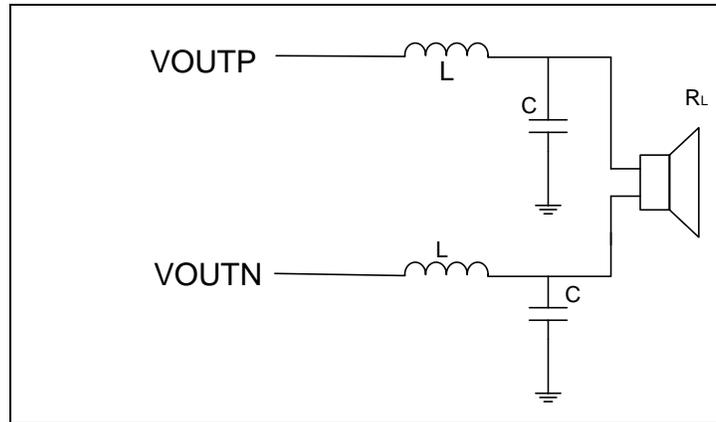

Figure 12 NAU83U15 Speaker Connections with LC Filters
**LC Filters** are used to suppress low-frequency emissions. The diagram in **Figure 12** shows the NAU83U15 outputs connected to the speaker with an LC Filter circuit.  $R_L$  is the resistance of the speaker coil.